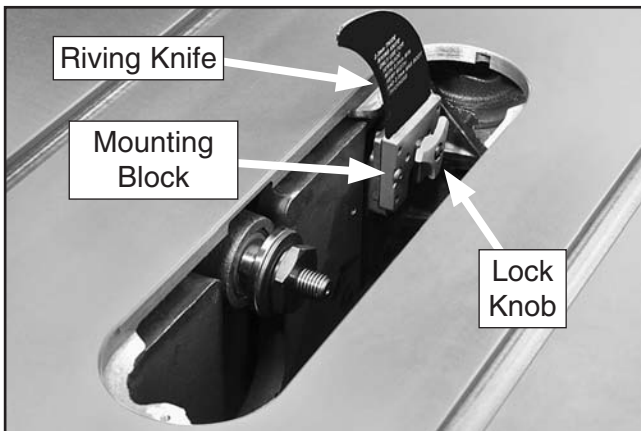

Figure 30. Example of riving knife installed.
35. Unthread the lock knob on the riving knife/ blade guard mounting block (see **Figure 30**) several turns. Push the riving knife away from the knob, then lift the riving knife up to remove it.